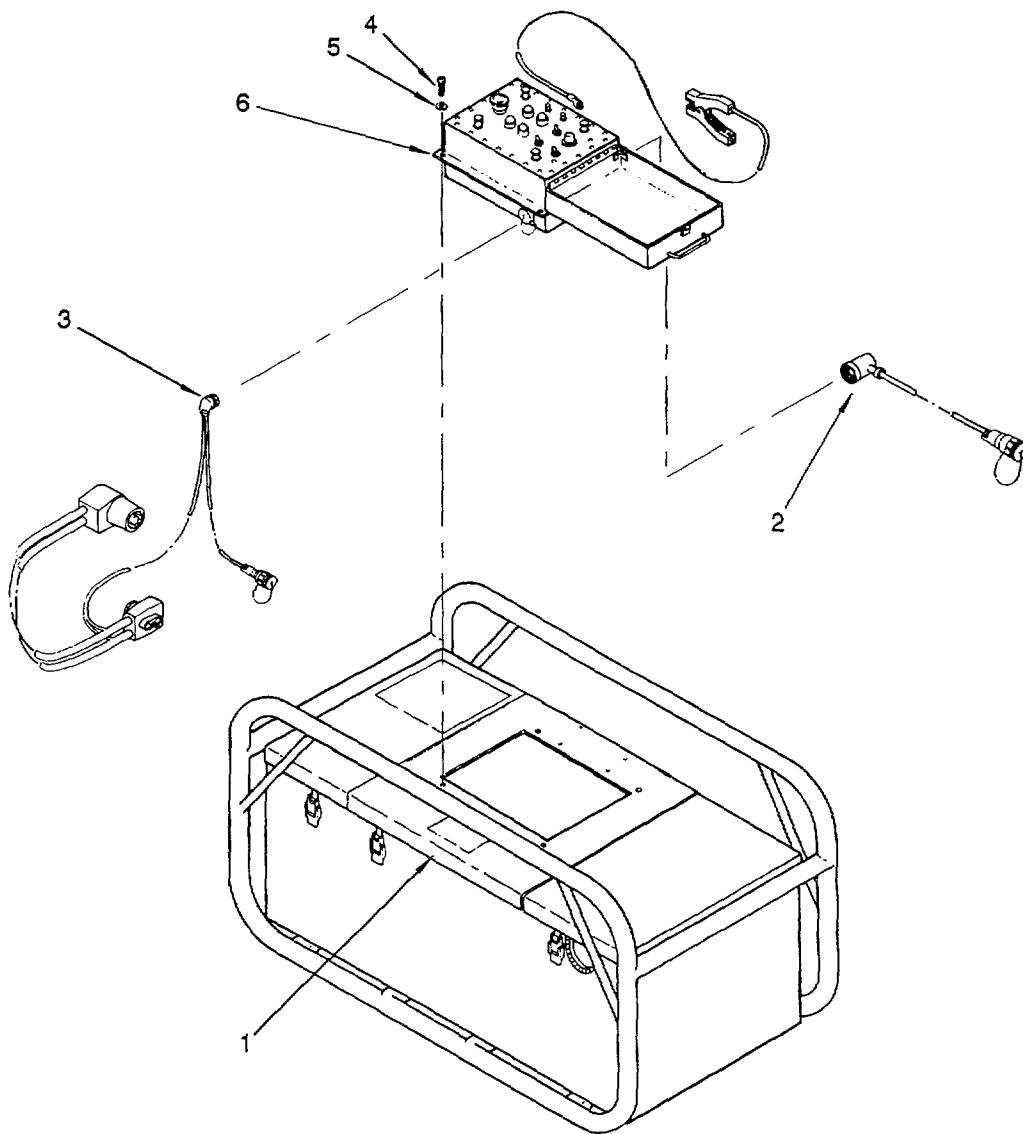

Figure 4-25. Control Box Replacement
4.15.2 Replace Control Box. (Refer to figure 4-25.)